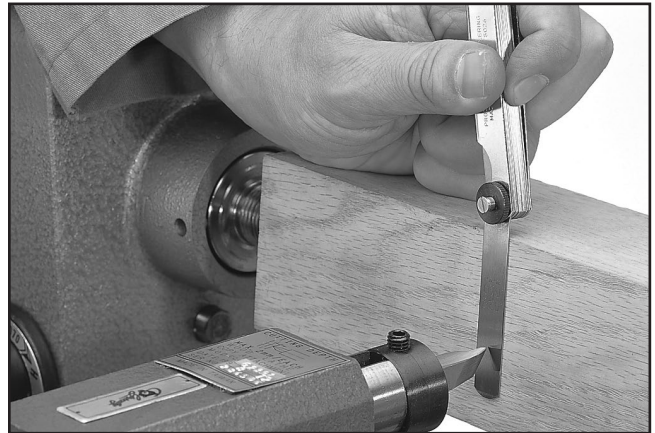

Figure 14. Example of using precision spacer.
3. Without changing position of turning blank, slowly turn longitudinal feed handwheel to move carriage toward opposite end of lathe. Use a feeler gauge or another precision spacer to check that the distance between cutter and turning square is consistent (see **Figure 14**).